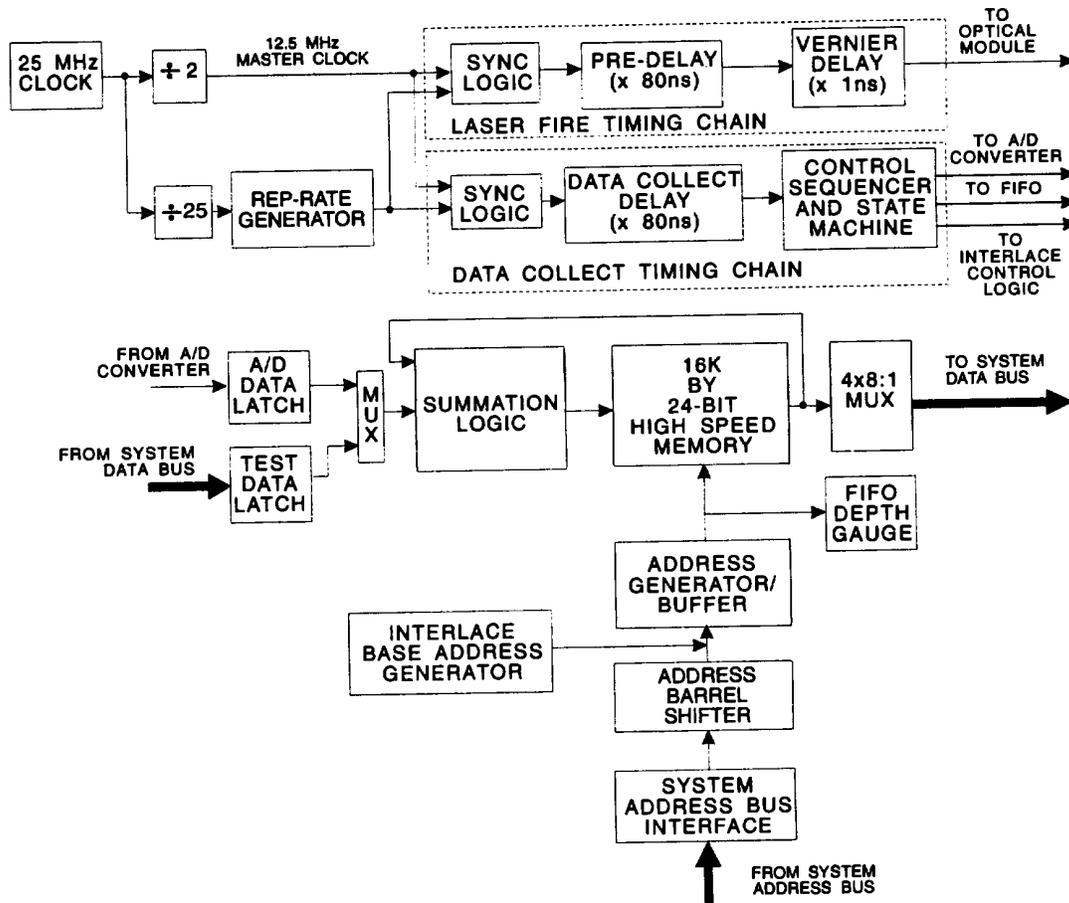

Figure 1-3. 1A2A4 DAS CCA Functional Block Diagram.
- b. **1A2A4 Data Acquisition System (DAS) CCA.** This CCA (fig. 1-3) is the most complex board in the unit. It is the function of this CCA to control the operation of the Optical Module and the Analog to Digital Conversion so that the fiber signature data can be collected and averaged for improved signal to noise ratio by Gaussian noise reduction.